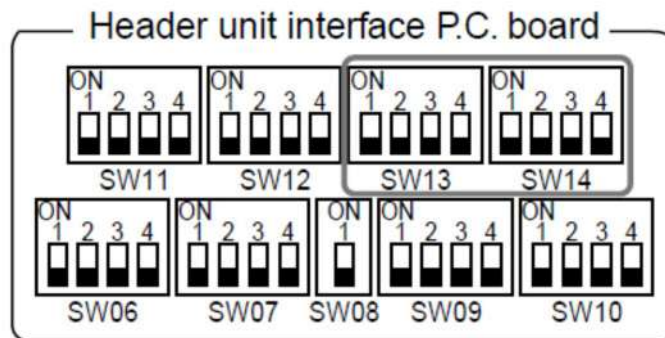

Fig 8
- 5) When setting up multiple systems for connection to a central remote controller or BMS system, confirm that the “Systems” are unequally addressed. Factory system setting is number 1. System addressing is carried out on the “Lead” unit of each system via dip switches SW13 bits 1 to 4 and SW14 bits 1 to 4. (Fig 8 & Fig 9).